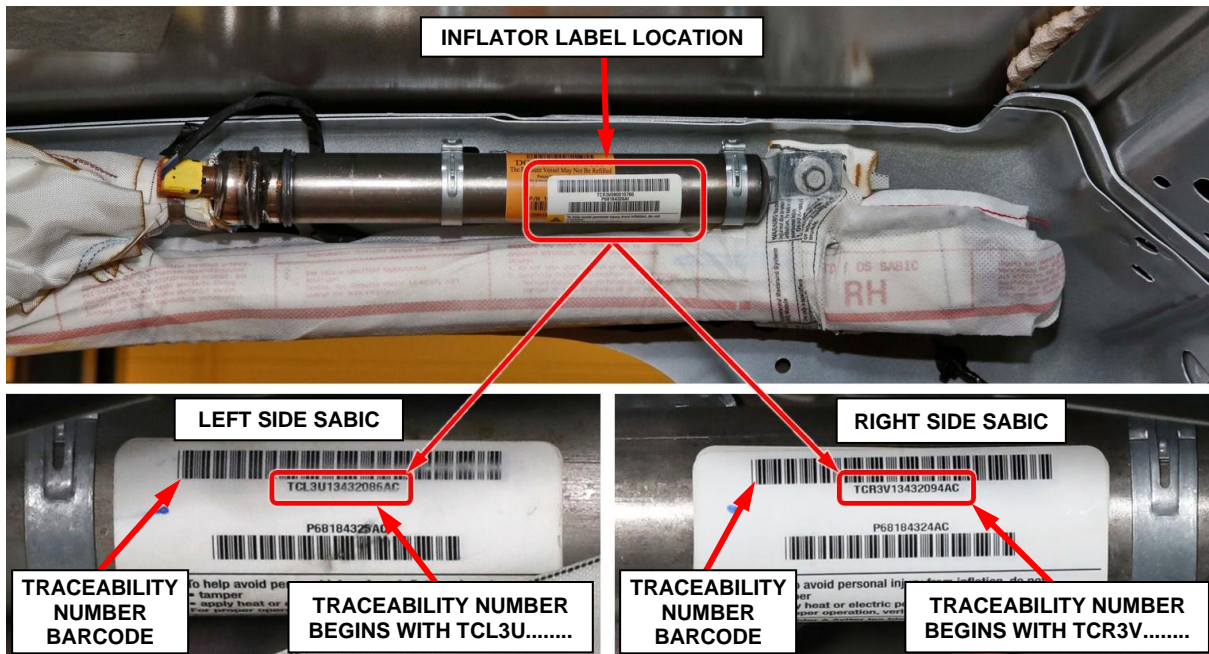

Figure 36 – SABIC Inflator Traceability Number Inspection
- 26. Locate the label on SABIC inflators. The traceability number will begin with TCL3Uxxxxxxxx for the left side or TCR3Vxxxxxxxx for the right side as shown in (Figure 36).